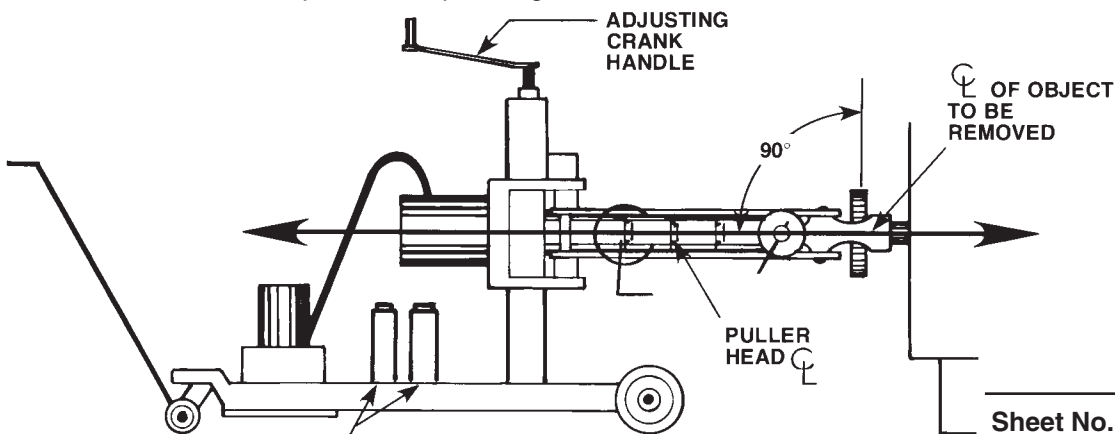

FIGURE 11
VERTICAL SET-UP: See Figure 11
3. When not in use, store extension adapters on the puller cart as shown in Figure 11.